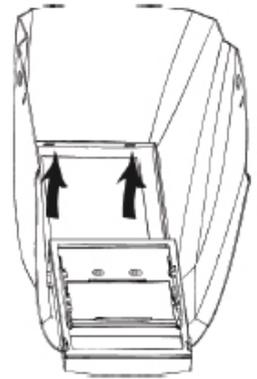

Fig.10
- e. Insert tabs of the back lens-retaining frame under the two slots of the helmet (Fig. 10).